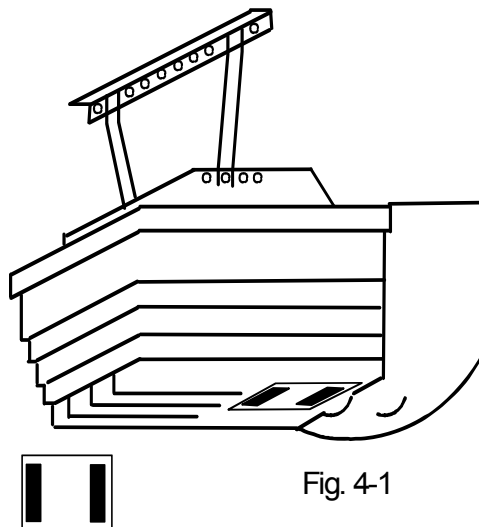

Fig. 4-1
4. Apply Velcro[®] to the Doorminder unit and the garage door opener power head assembly. (Fig. 4-1) *TIP: Apply two parallel strips at the front and back of the outline and the unit.* The industrial strength, temperature resistant adhesive on the Velcro[®] strap is pressure activated. Use your finger to apply pressure and remove air bubbles. The adhesive is 80% cured in 1 hour and 100% cured in 24 hours. The Doorminder unit can be mounted before the adhesive is cured, but care should be exercised not to apply any pressure on the unit that will disturb the adhesive. Attach the Doorminder to the Velcro[®] strapping on the garage door opener. As in step 3, verify that the reflector and system are aligned.